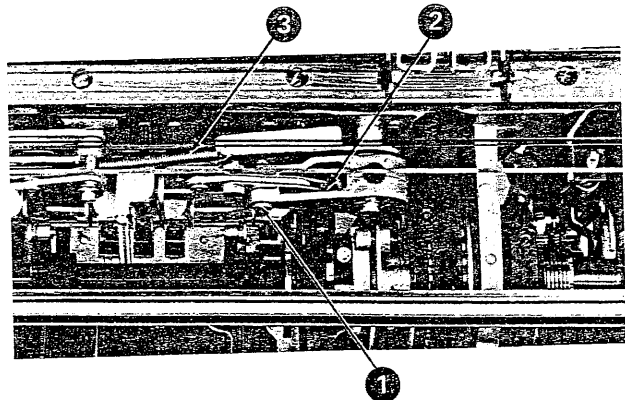

Figure 4-25. Rotate-Selection-Differential Removal (Steps 12-14)
12. Remove the balance-arm mounting stud (No. 1, Figure 4-25).
13. Disconnect the -5 bail drive link from the right end of the balance arm (No. 2, Figure 4-25).
14. Disconnect the tilt-differential spring (No. 3, Figure 4-25).